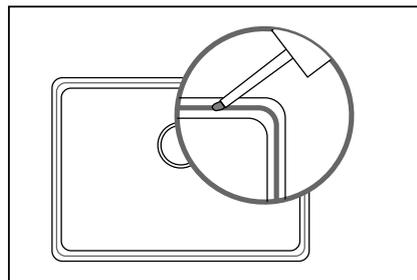

fig. 5
6. Put the sink the right side up and apply a continuous bead of silicone on the frame, about 0.5" from the circumference. (see fig. 5)